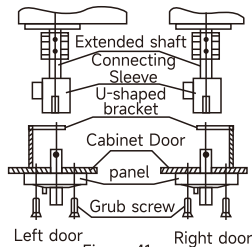

Figure 41
(5) As shown in Figure 41, use the three longer flat head screws in the attachment to install the panel component (on the outer side of the cabinet door) and the U-shaped bracket (on the inner side of the cabinet door) at the opening of the cabinet door, and make the U-shaped opening of the U-shaped bracket face left when using the right-hand door and right when using the left-hand door.